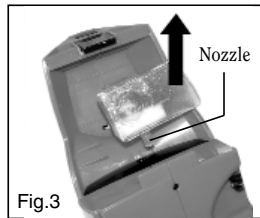

Fig.3
7) Lift the water filter up to release the water filter nozzle from the designated hole, as illustrated in Fig. 3.